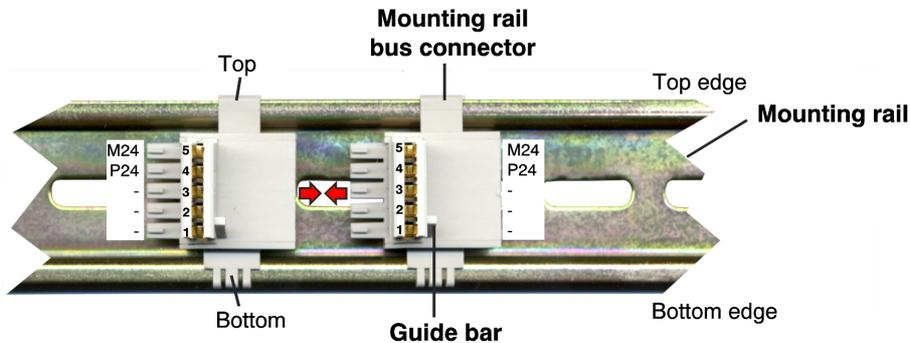

Fig. 7: Mounting rail with bus connector
3. Swivel the ECX module onto the mounting rail in pressing the module downwards according to the arrow as shown in Fig. 7. The housing is mechanically guided by the DIN rail bus connector.